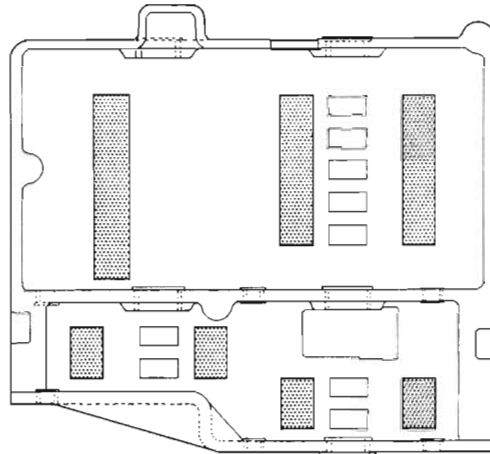

Fig.16 - Tapping Pad Locations
2. Install seven (7) tapping pads on inside of housing, Fig. 16, and secure with 6-32 socket head screws. Torque to 1 N·m (9 in.-lbs).